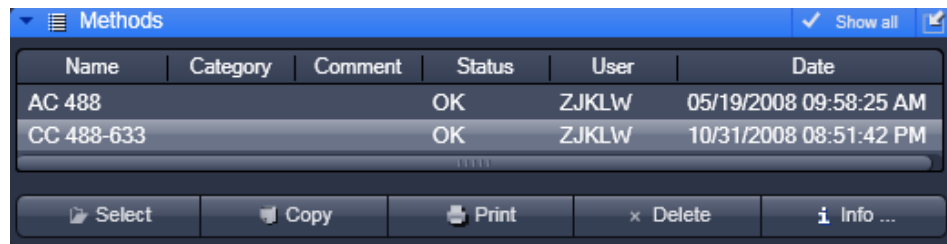

Fig. 9-4 Methods tool box
- This opens the **Method** tool box (see Fig. 9-4). Another click will close the window again. Scroll tabs will allow to view all the contents. In the undocked state the window size can be accommodated to fit the requirements by pulling the window sites.